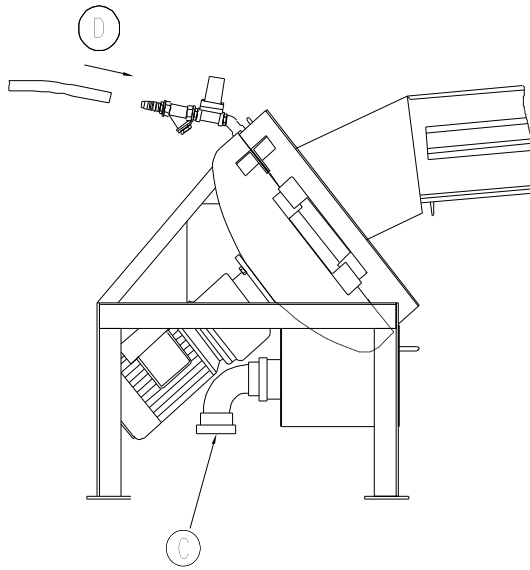

Figure 9: Mounting the washer
- V. Press the enclosed curved waste-water pipe as far as possible onto the drain connection of the dirt box. Connect the other end of the waste water pipe as suitable to the existing drain. See Figure 9: Mounting the washer at (C)
- VI. Connect a ½" water hose between the water connection nipple and a water tap. Open the tap completely. See Figure 9: Mounting the washer at (D)
- V. Press the enclosed curved wastewater pipe as far as possible onto the drain connection of the dirt box. Connect the other end of the wastewater pipe in a suitable manner to the existing drain. See Figure 9: Mounting the washer at (C)